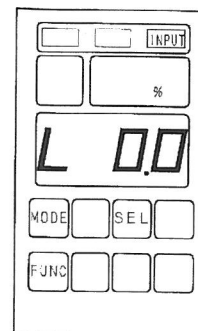

Fig. 5.1 (1)
- (1) If the [MODE] key is pressed while the [FUNC] key is being pressed down, the display mode is switched. Press several times, the display-mode of display panels show "INPUT". (Fig. 5.1 (1))
- (2) Press the [SEL] key twice, 4-digit display on the left is "L" the display. (Fig. 5.1 (1))